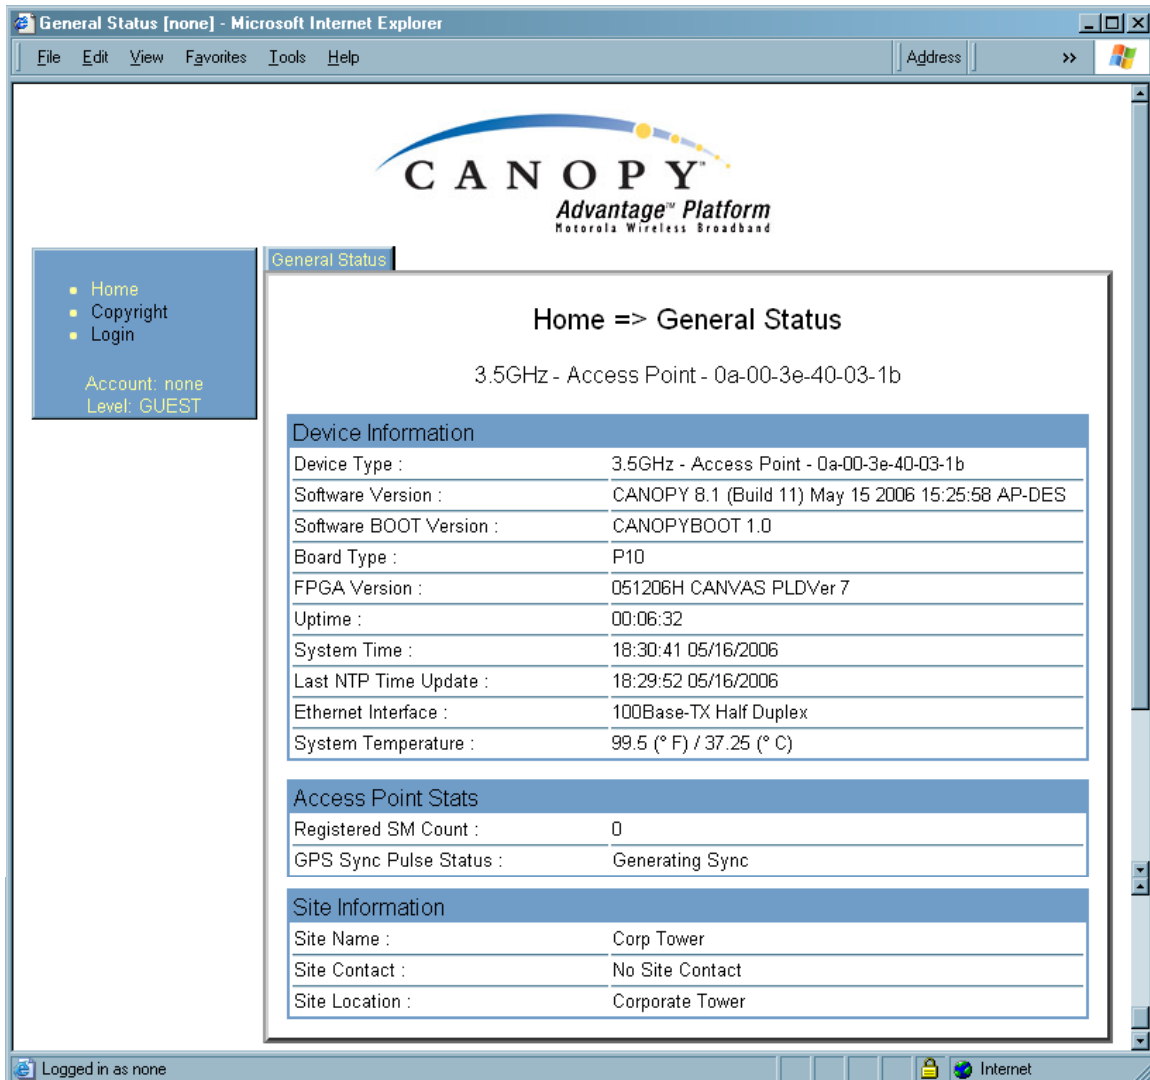

Figure 138: General Status tab view for GUEST-level account
- GUEST, who has no write permissions and only a limited view of General Status tab, as shown in Figure 138, and can log in as a user.
After a password has been set for any ADMINISTRATOR-level account, initial access to the module GUI opens the view of GUEST level (Figure 138).